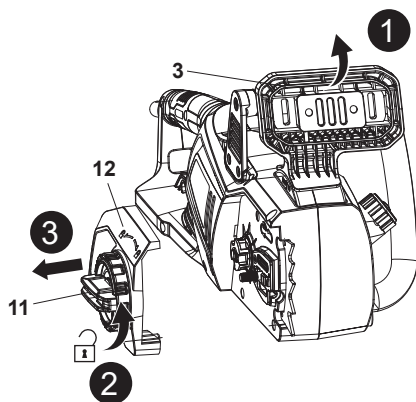

Fig. 1
2. Pull back the front safeguard (3) to disengage the chain brake (Fig. 1, step 1).
3. Unscrew the locking wheel (11) anticlockwise and then remove it together with the chain saw cover (12) (Fig. 1, steps 2, 3).